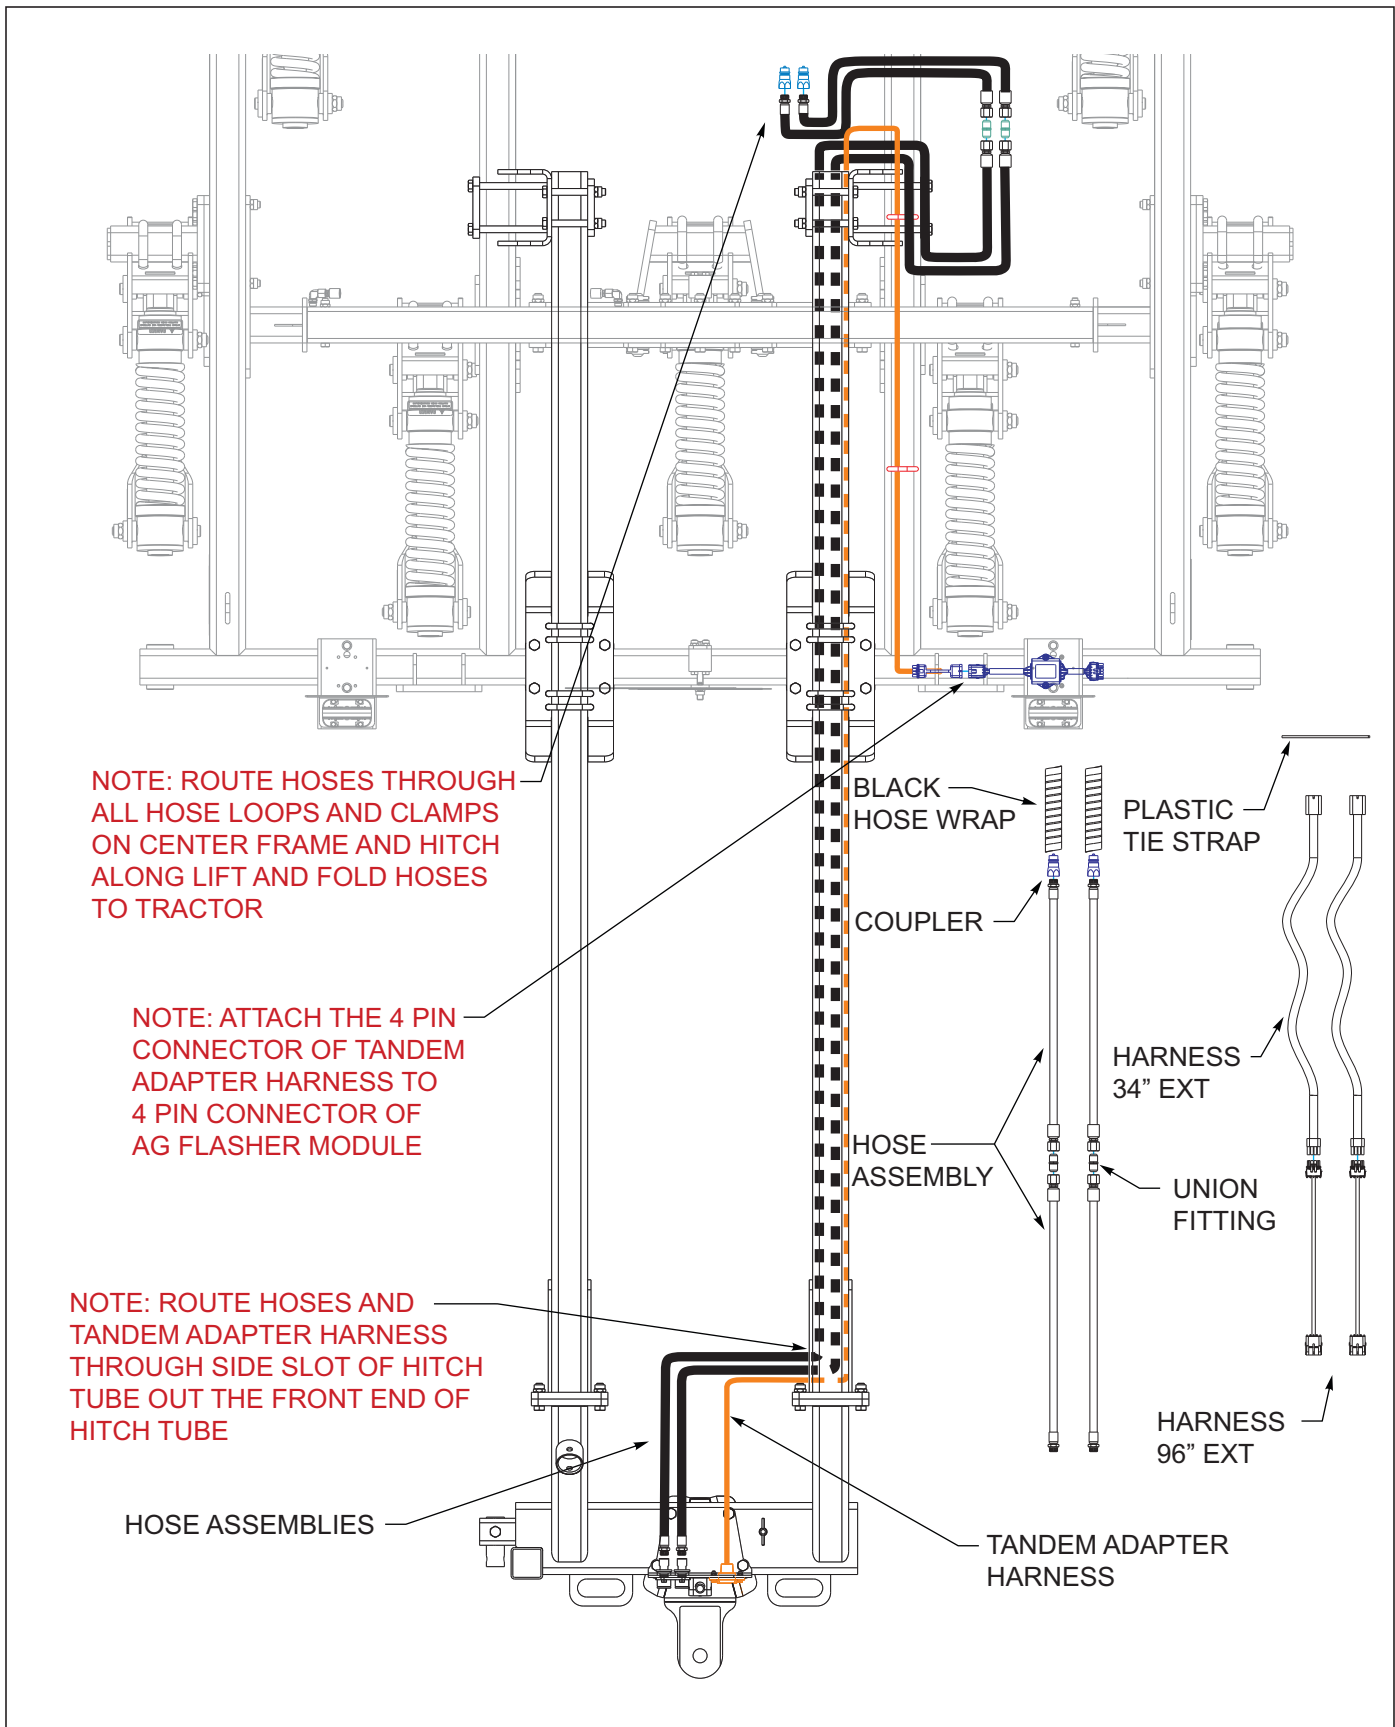

Figure 3-40: Rear Tow Hitch Layout
10. Route hydraulic hose assemblies on right side of hitch, through tube and follow hose loops to front as shown *See Figures 3-40.* Connect one end of the hyd mount assembly and the other end to the union fittings. Connect the couplers to the hose assembly. Attach the other end of the hoses to the union fittings as shown.